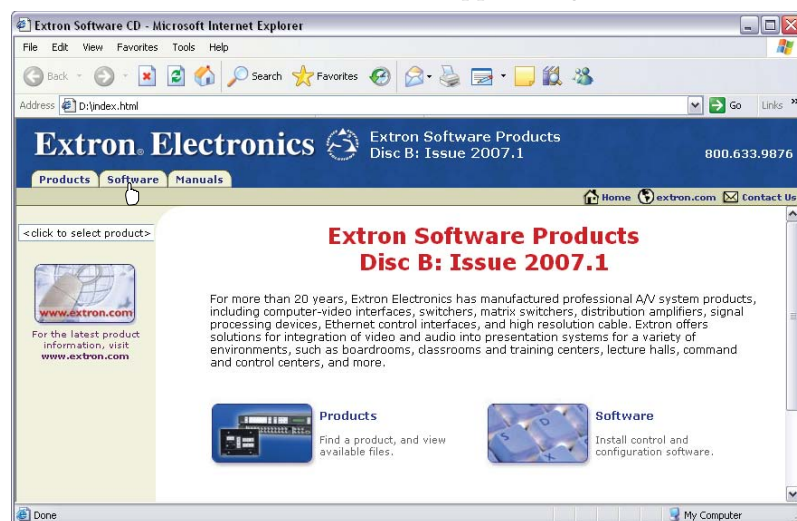

Figure 5-1 — Software CD window
The Extron software CD window appears (figure 5-1).
2. Click on the Software tab (figure 5-1).